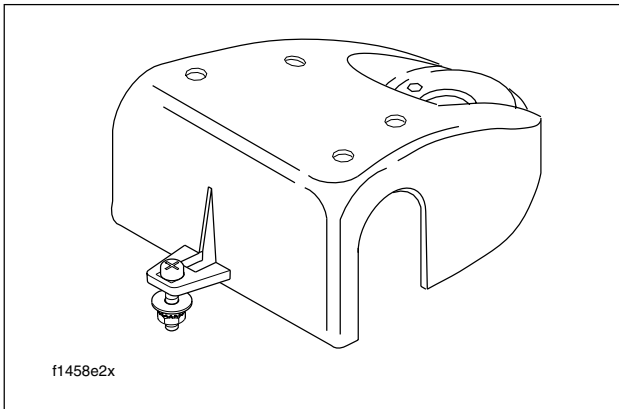

Figure 2-9. Handlebar Clamp Shroud
12. Remove the handlebar clamp shroud from the vehicle, while gently pulling the tachometer conduit and connector out of the headlamp nacelle. See Figure 2-9.
17. Part the halves of the headlamp nacelle slightly. With the flat washer on the handlebar clamp shroud facing the inside surface of the nacelle, slide the Phillips screw down the gap until the shroud is in position at top of nacelle. See Figure 2-9.